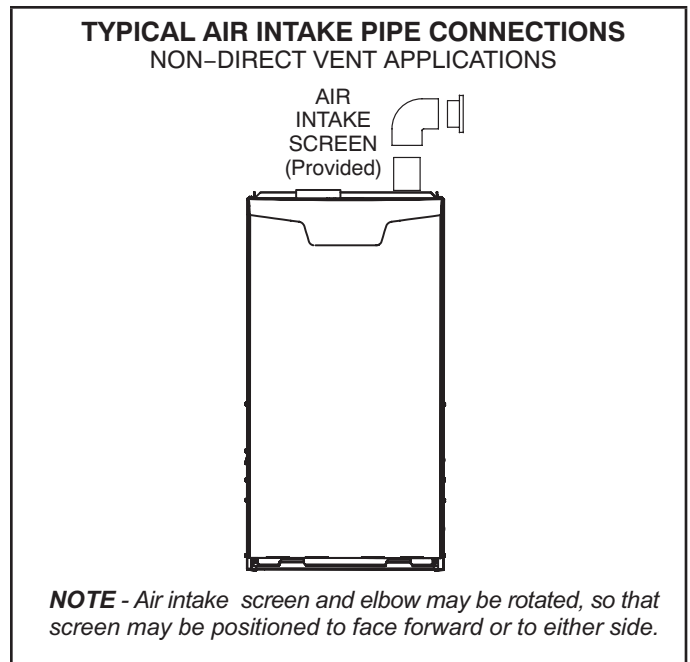

Figure 25
- 1 - Use field-provided materials and the factory-provided air intake screen to route the intake piping as shown in Figure 25. Maintain a minimum clearance of 3" (76mm) around the air intake opening. The air intake opening (with the protective screen) should always be directed forward, or sideways.